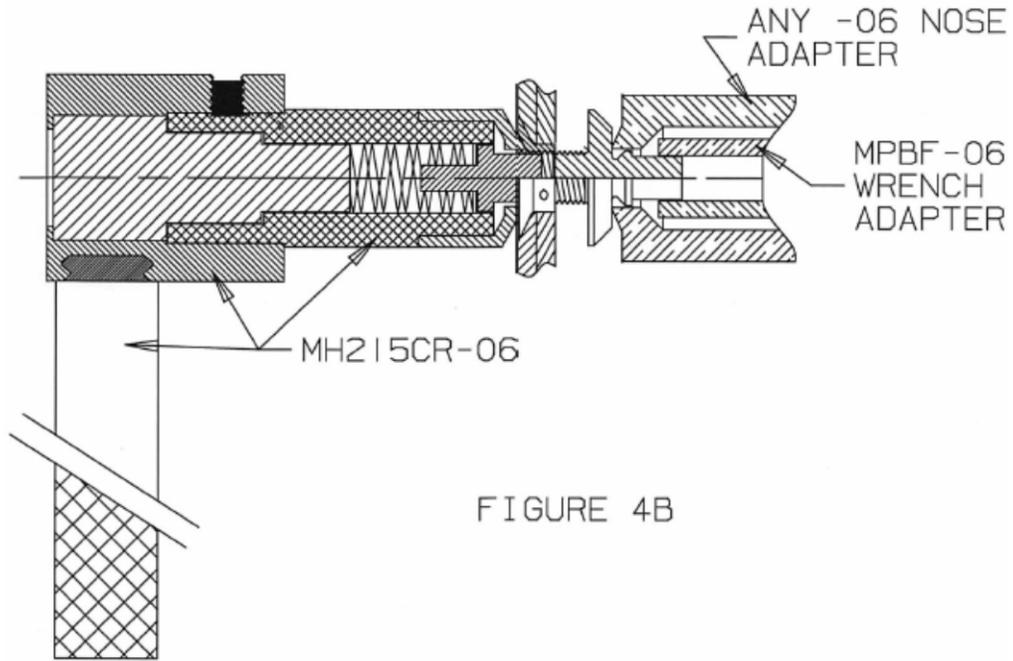

FIGURE 4B
- 9.3 The wrenching part of the adapter assembly is inserted over the flattened portion of the screw and the nose piece of the special installation tool engages the nut from the opposite side. The special tool must be held firmly against the head of the nut and perpendicular to it (Figure 4B). Cocking of the driver may cause premature stem break-off before the fastener is completely driven. When the nut is not hold firmly, it may cause to "cam-out" the fastener recesses resulting in incomplete installation and/or fastener damage.